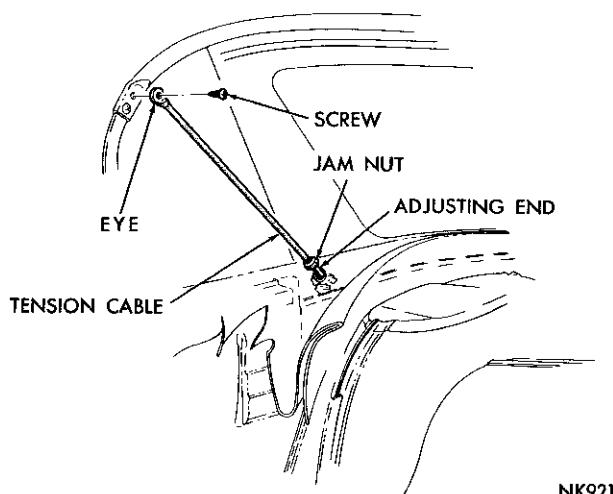
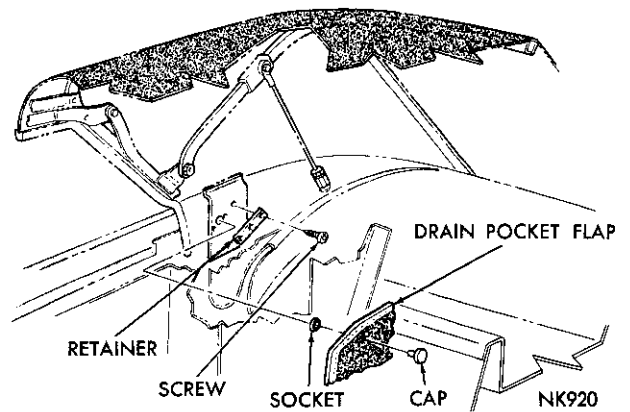

Fig. 158—Rear Bow Tension Cable
Fig. 162—Well Flap Retainers
Two steel cables attached to the rear bow and the top well are provided to keep the number 3 bow from moving forward and wrinkling the top material. They also prevent excessive tension on the backlight zipper. The upper end of the cables are attached to the bow by screws. The lower end is threaded into a clinch nut attached to a bracket at the top well which permits the cables to be shortened or lengthened to increase or decrease tension (Fig. 158). **Before attempting to adjust the cables, unfasten the top header latches to relieve tension on the linkage.**
- (1) Place a protective cover on the deck lid upper panel and quarter panel areas.
- (2) Place masking tape below the lower edges of the rear window and quarter panel belt mouldings and remove the mouldings.
- (3) Remove the well flap retainers from the inner quarter panel (Fig. 162) and disconnect the rear bow tension cable (Fig. 158) at the lower bracket.
- (4) Mark the location of the moulding retainer screw holes on the masking tape and remove the retainers.
- (5) Mark the position of the curtain and top cover screw holes on the masking tape and remove the screws.
- (6) Remove the well liner, seals and sealers.
- (7) Clean the sealing and cementing areas thoroughly to assure good adhesion on the new liner.
- (13) Install the moulding retainers and mouldings.
- (14) Adjust the tension cables and install the well flap retainers (Fig. 162).
- (15) Remove the masking tape and protective covers.
(16) Remove the top and rear curtain material from the roof rail.
(17) Raise the top completely and remove the quarter panel trim in the well area to permit removal of the top material retainers in the well area at the quarter panels (Fig. 162).
(18) Remove the staples, drive nails and tacks attaching the top material to the header.
(19) Mark the location of the top material bead on the ends of the cover pads.
(20) Loosen the vent wing seals at the corners.
(6) Position the top cover material on the inner quarter panel in the well area and install the retainers (Fig. 162). Do not tighten.
(7) Install the screws attaching the rear curtain to quarter panel making sure the center line marks on the rear bow and cover end are in alignment.
(8) Make certain the center line at the front end of the top cover is in alignment with the center line on the header and press the top cover to the header.
(9) At the rear window area, align the end of the window curtain with the mark on the masking tape and install the retaining screw.
(10) Align the end of the top cover material with the alignment mark on the masking tape. Position the rear window moulding retainer over the cover material and install the retaining screw. On new covers,